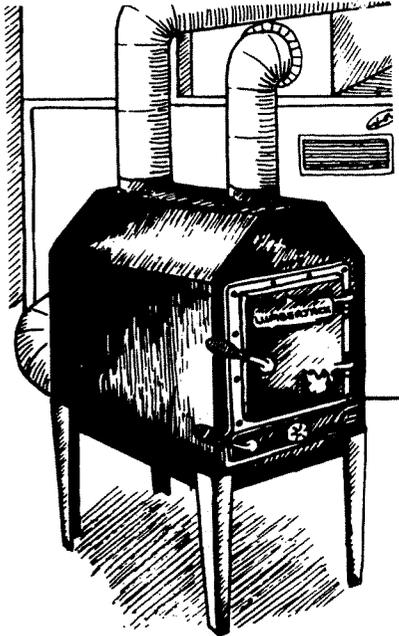

Fig. 84. Lumberjack add-on wood-burning furnace.
19. **Minnesota Energy Savers, Inc.** (manufacturer), 305 Main, La Crescent, MN 55947. Their Lumberjack add-on wood-burning furnace (Fig. 84) weighs 550 pounds and has cast-iron grates and doors. Firebox is firebrick-lined and takes 28-inch logs. Blower has 465 ft³/min capacity. Stove hooks up to existing hot-air furnace.